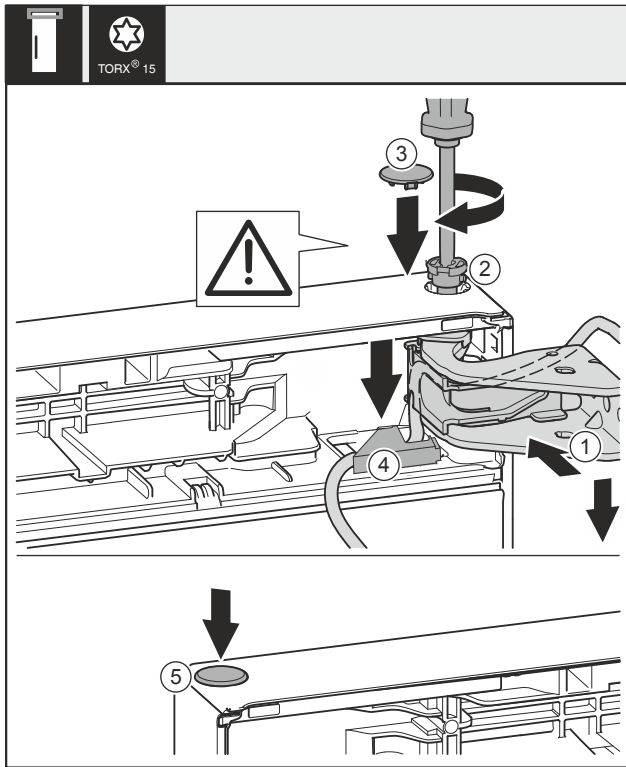

Fig. 38
- ▶ Align the door on the top towards the opening in the swap bearing block Fig. 38 (1).
- ▶ Insert the pin Fig. 38 (2) and tighten it with the screwdriver.
- ▶ Mount the safety cover to protect the door: Insert the safety cover Fig. 38 (3) and check whether it is positioned on the door. If so, insert the pin completely.
- ▶ Insert the cover Fig. 38 (4) and press it down until it snaps down.
- ▶ Insert the plug Fig. 38 (5)